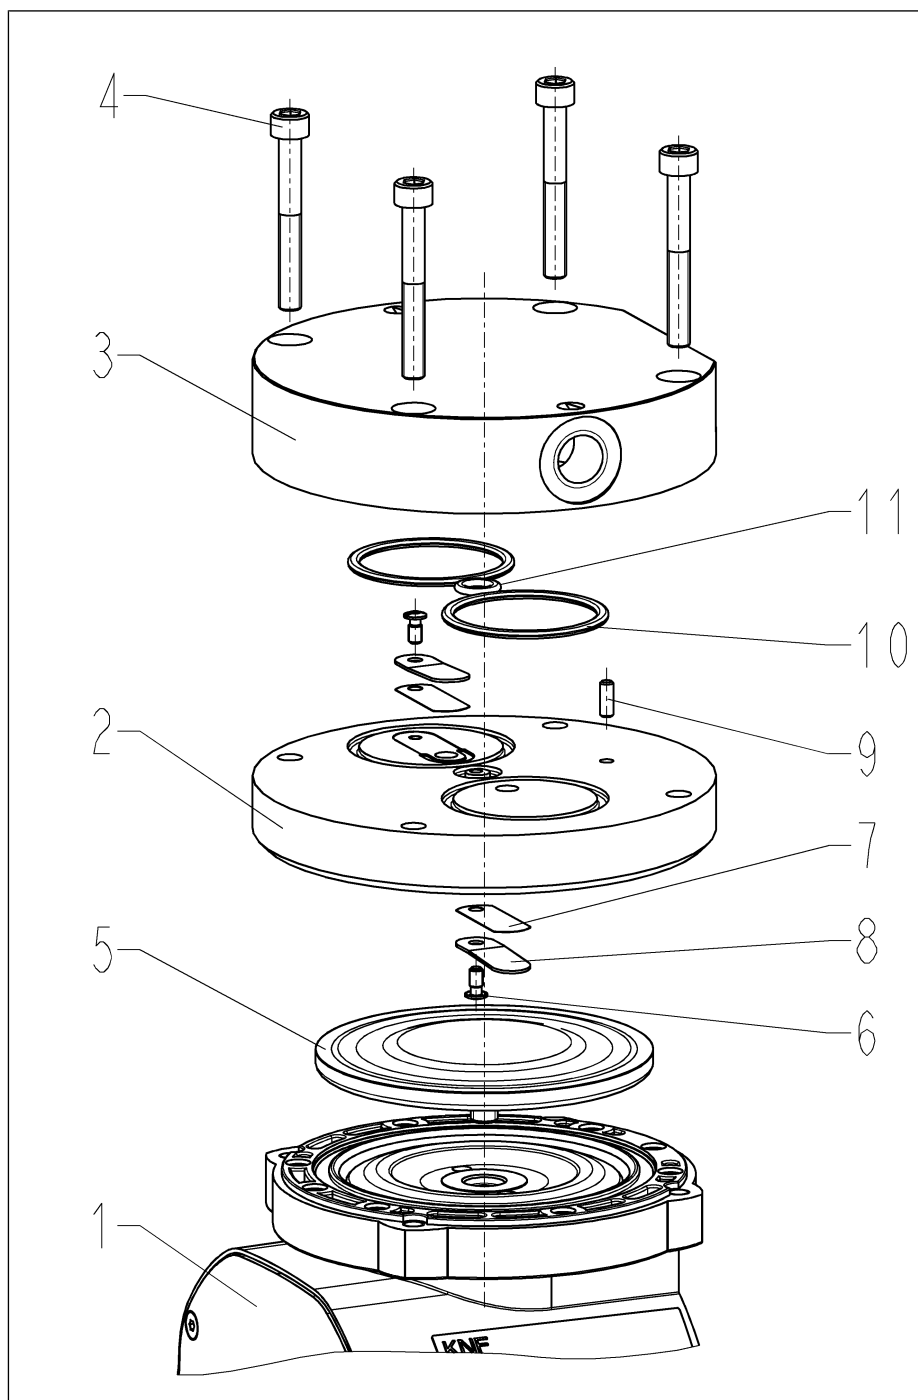

Fig.14 N922STE EX pump parts
**According to Fig. 14
The item numbers within the following work instruction refer to Fig. 14.